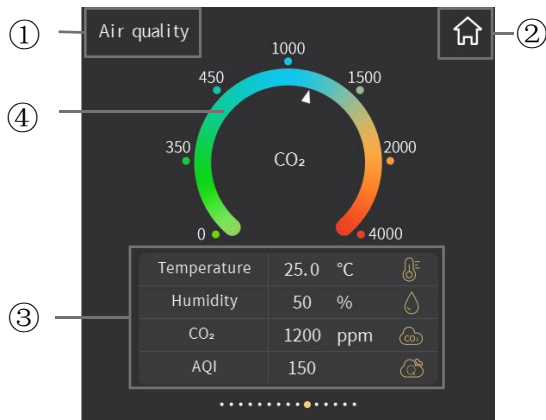

Fig.2.9.1
strip④ will point to the corresponding scale, such as Fig.2.9.1 above is the display effect of CO2, Fig.2.9.2 is the display effect of temperature, Fig.2.9.3 is the display effect of AQI and Fig.2.9.4 is the display effect of humidity.